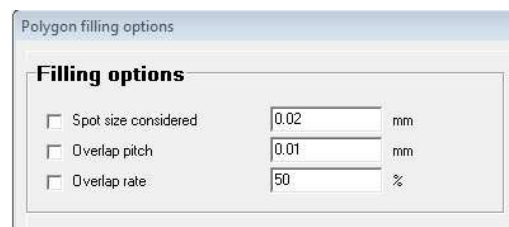

Fig 10 : Filling options
- Enter the spot size selected in the Dilase equipment in the textbox “**Spot size considered**” and then valid with “Enter” key (Fig 10). Enter “**50%**” in the textbox “**Overlap rate**” and then valid with “Enter” key (Fig 10).